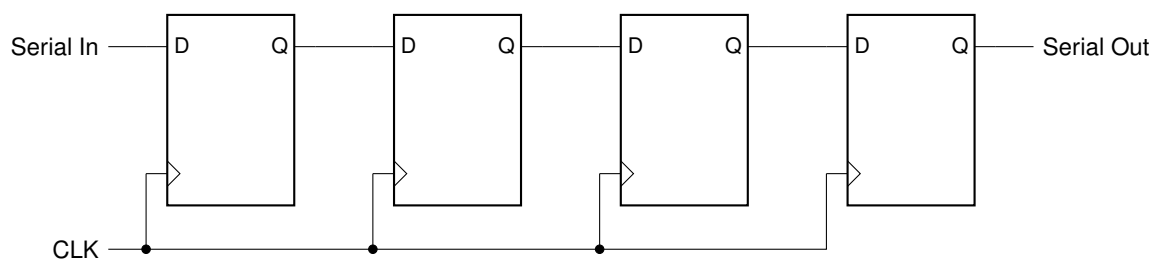

Figure 5.4: Schematic of a 4-bit serial in/serial out (SISO) register.
**Serial in/serial out (SISO)** registers can be used in data buffering, storing data temporarily while it is in between its source and its destination. Serial data is sent to the input of the first flip-flop, and at each clock cycle the signal is shifted through subsequent flip-flops. Registers with serial input take the longest time for data to transmit from one end to the other. Registers with serial output additionally take longer than parallel output devices to access the data stream at the end. A schematic of a 4-bit SISO register is shown in Figure 5.4.